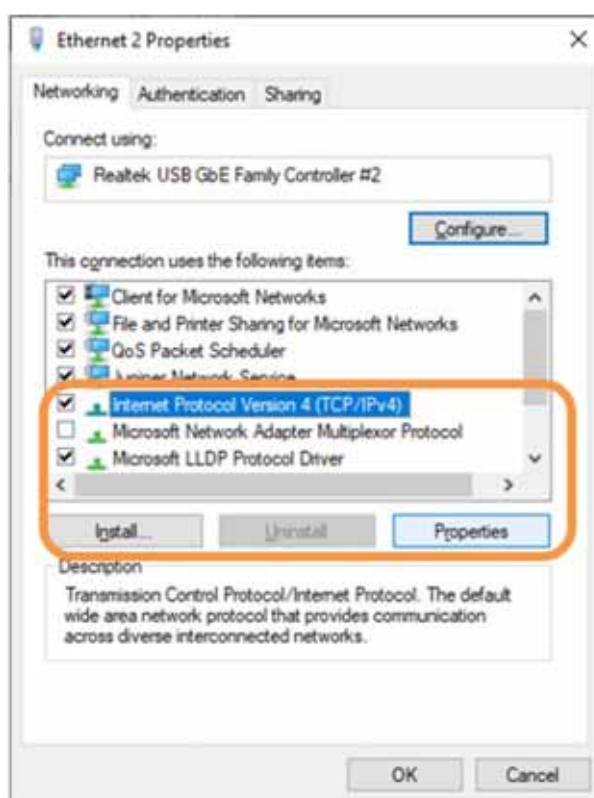

Figure 1-8. Adjust IP protocol (v4) characteristics
- Click the properties button (Fig. 1-8).